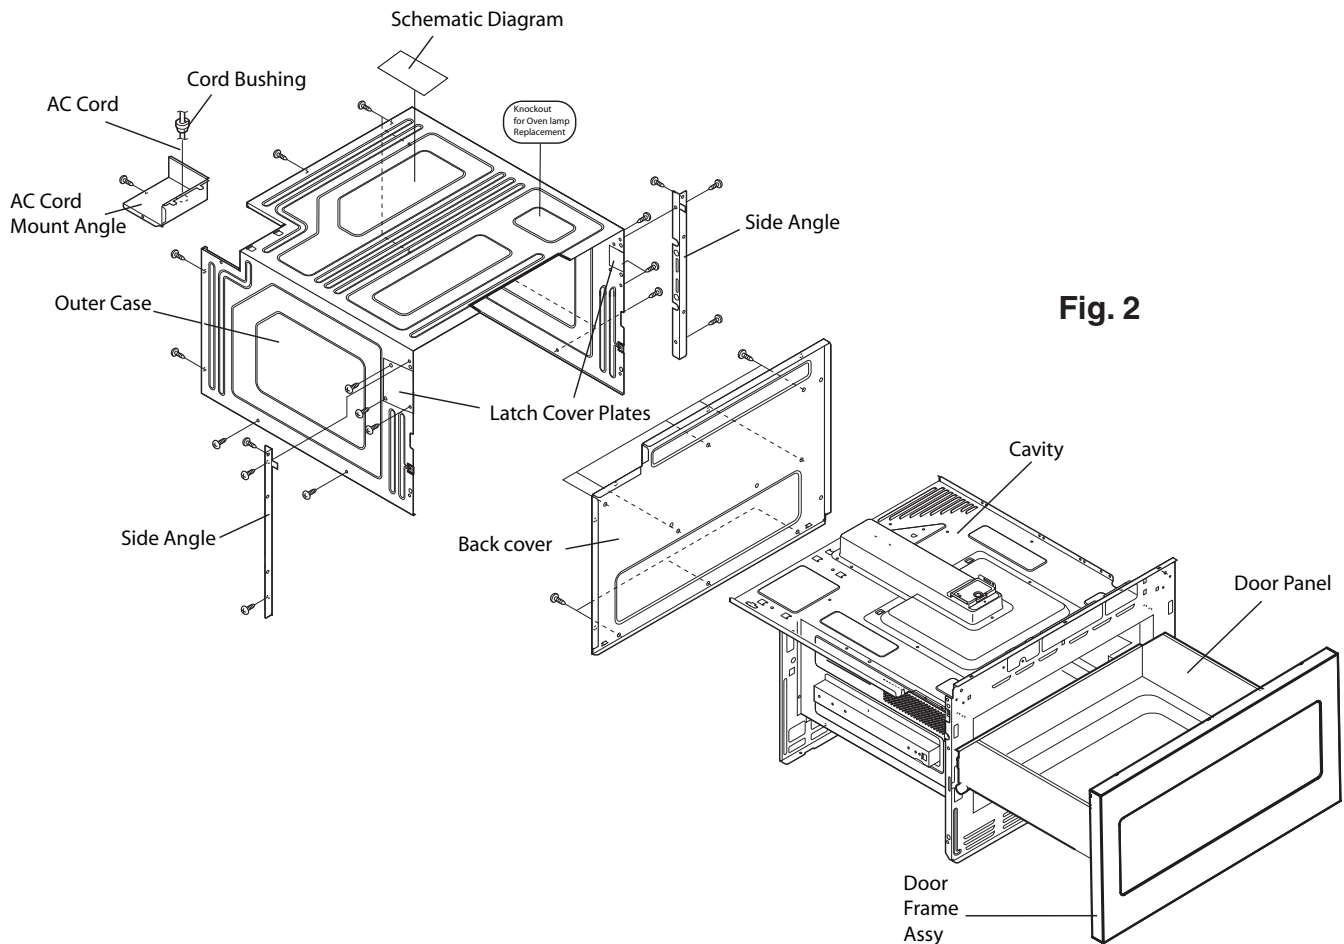

Fig. 2
3. Remove the **(2)** screws holding AC Cord Mounting Angle. Lift the mounting angle (with AC Cord attached) and unplug AC Cord from molex. **(Fig 2)**.
4. Remove the **(18)** screws holding the Control Panel Rear Cover, Outer Case/Side Angles, then remove outer Case. **(Fig 2)**.